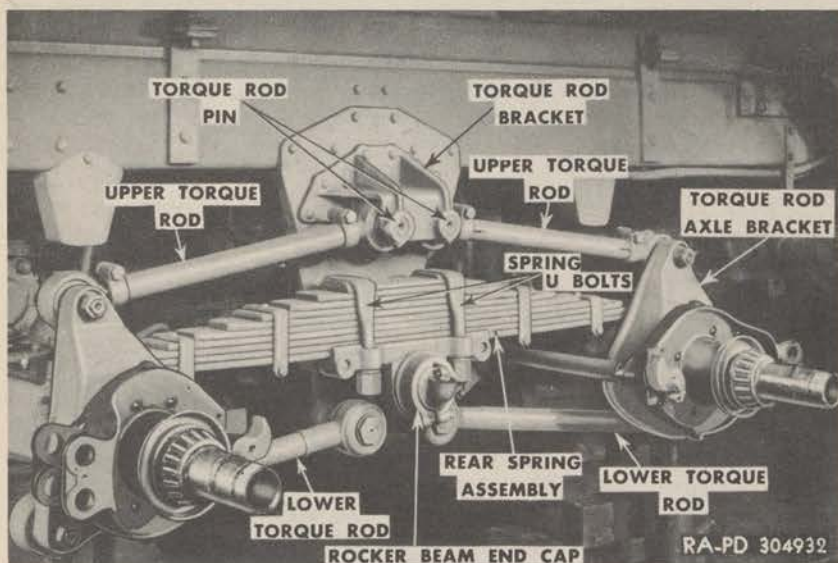

Figure 149—Rear Suspension
a. Description. The rear springs are mounted on a tandem suspension as shown in figure 149. They act as load-equalizing members, carrying the axle load. They are mounted in an oscillating spring seat which is free to turn on the rocker beam tube with the ends resting on the spring plates on the axle housing so that they are free to move, thus eliminating twisting action. The rear springs used on these vehicles are